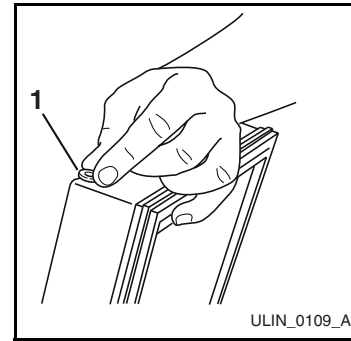

Figure 18
- Relocate plastic spacer/bushing (**Figure 18**) on bottom of door to the opposite side. Clean out bushing hole in door bottom if necessary.